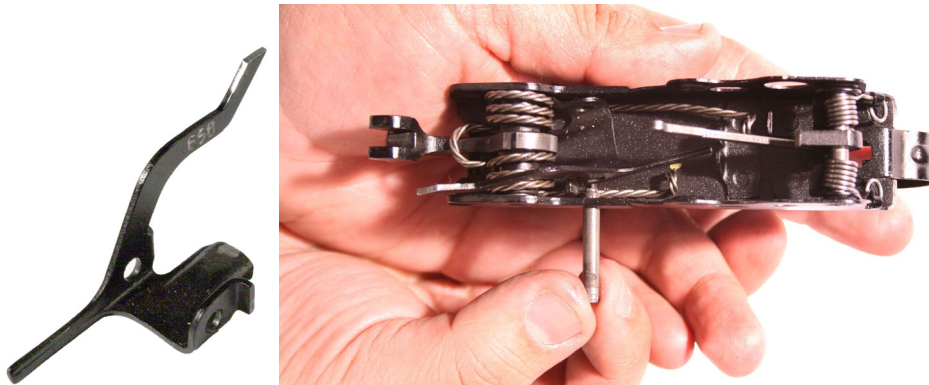

Figure 15. Install the Safety Sear and Install a Retaining Pin through the Safety Sear.
7. Install the safety sear with the curved leg over the main spring. Install a retaining pin through the safety sear. Use a hammer and punch if necessary. Refer to Figure 15.